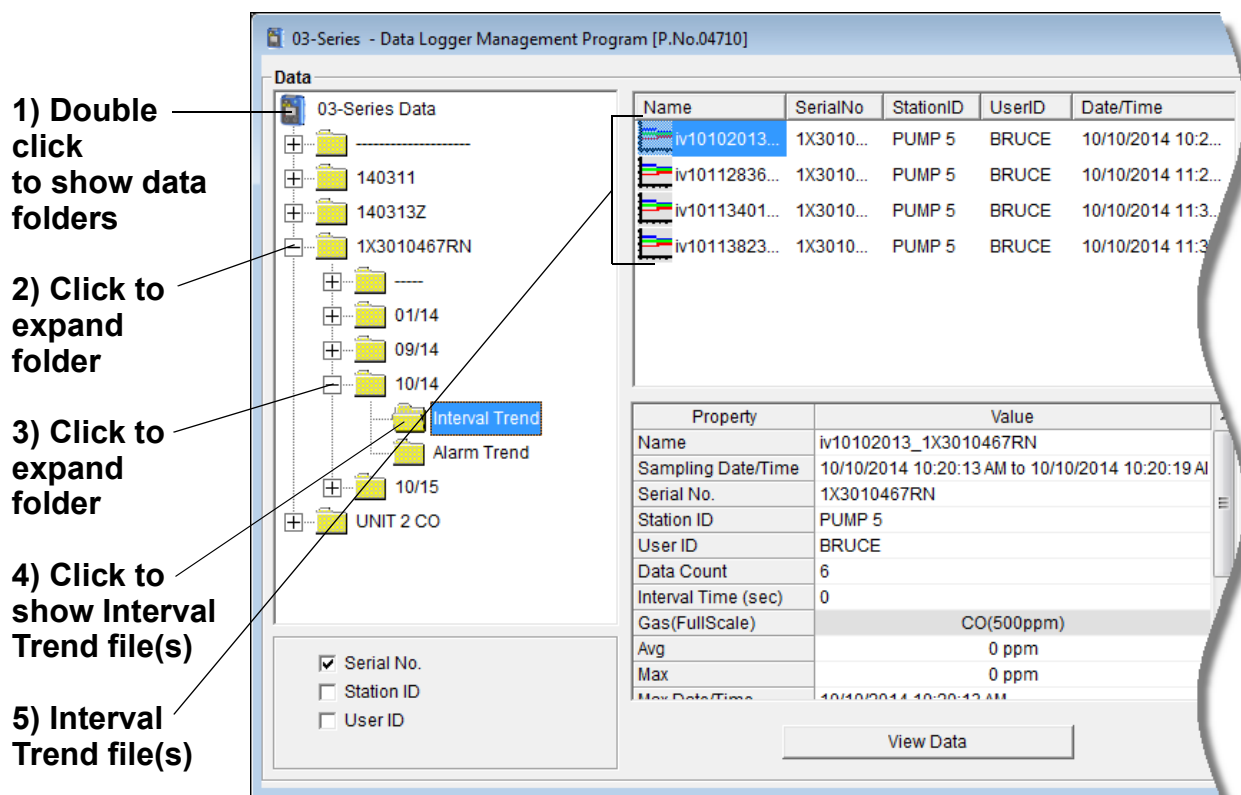

Figure 32: Data Window - Selecting Interval Trend Data Files
- If you click the **Summary** button, the Data Window will split into two frames, one above the other, with the data table in the lower frame and the summary information shown in the upper frame. The summary information is the same as the one shown in the lower right frame in Figure 32. To return to the one frame format, click **Summary** again.
NOTE: The data count shown when you have selected an interval trend data file, as in Figure 32 above, can be more than five if you have events, such as the 03 Series going into and out of alarm, but you may not have five scheduled data points.
- If you click the **Summary** button, the data window will split into two frames, one above the other, with the graph in the lower frame and the summary information shown in the upper frame. The summary information is the same as the information shown in the lower right frame in Figure 32. To return to the one frame format, click **Summary** again.